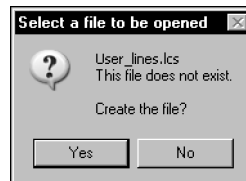

Fig. 6.2. Prompt for creation of a new library file
5. Respond **Yes** to a system prompt for creation of a new file (Fig. 6.2).